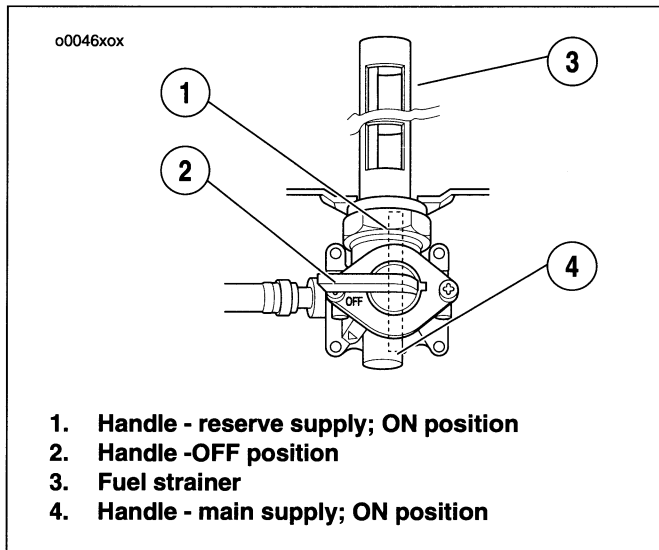

Figure 19. Fuel Supply Valve
- See Figure 19. Turn the handle (Item no. 2) to the horizontal position to turn OFF main fuel supply.